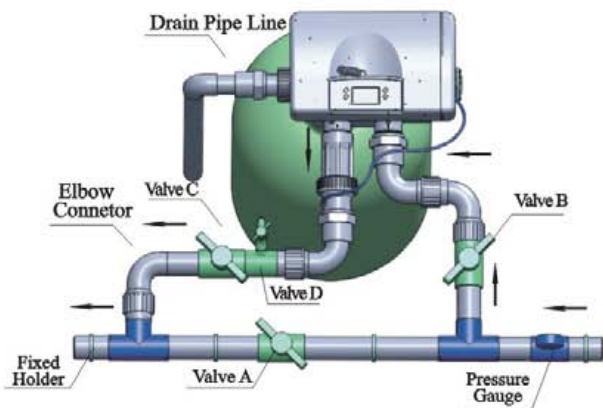

Figure1-3
③ Pipeline connection
- As Figure1-3 shows, install a pressure gauge in water inlet.
- Install sampling valves in inlet, outlet and pipeline A.B.C.D as showed in Figure 1-3.